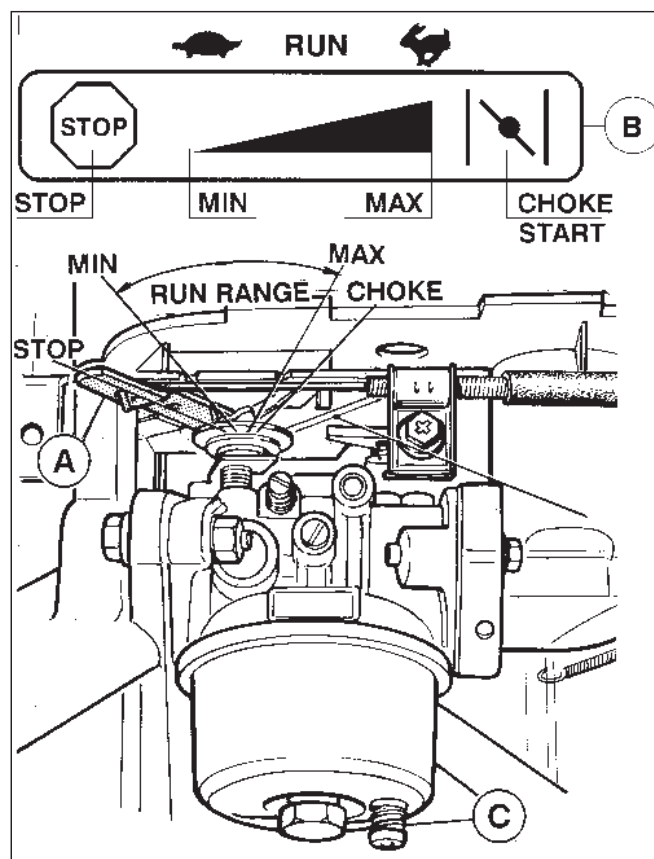

Fig. 2
- Move control lever (Fig 2) on engine or remote control (Fig 2) on equipment to choke or start.
NOTE - Warm engine normally starts without choking. Move control lever (Fig 2) on engine or remote control (Fig 2) on equipment to MAX position; then follow 'b' 'c' and 'd' instructions.